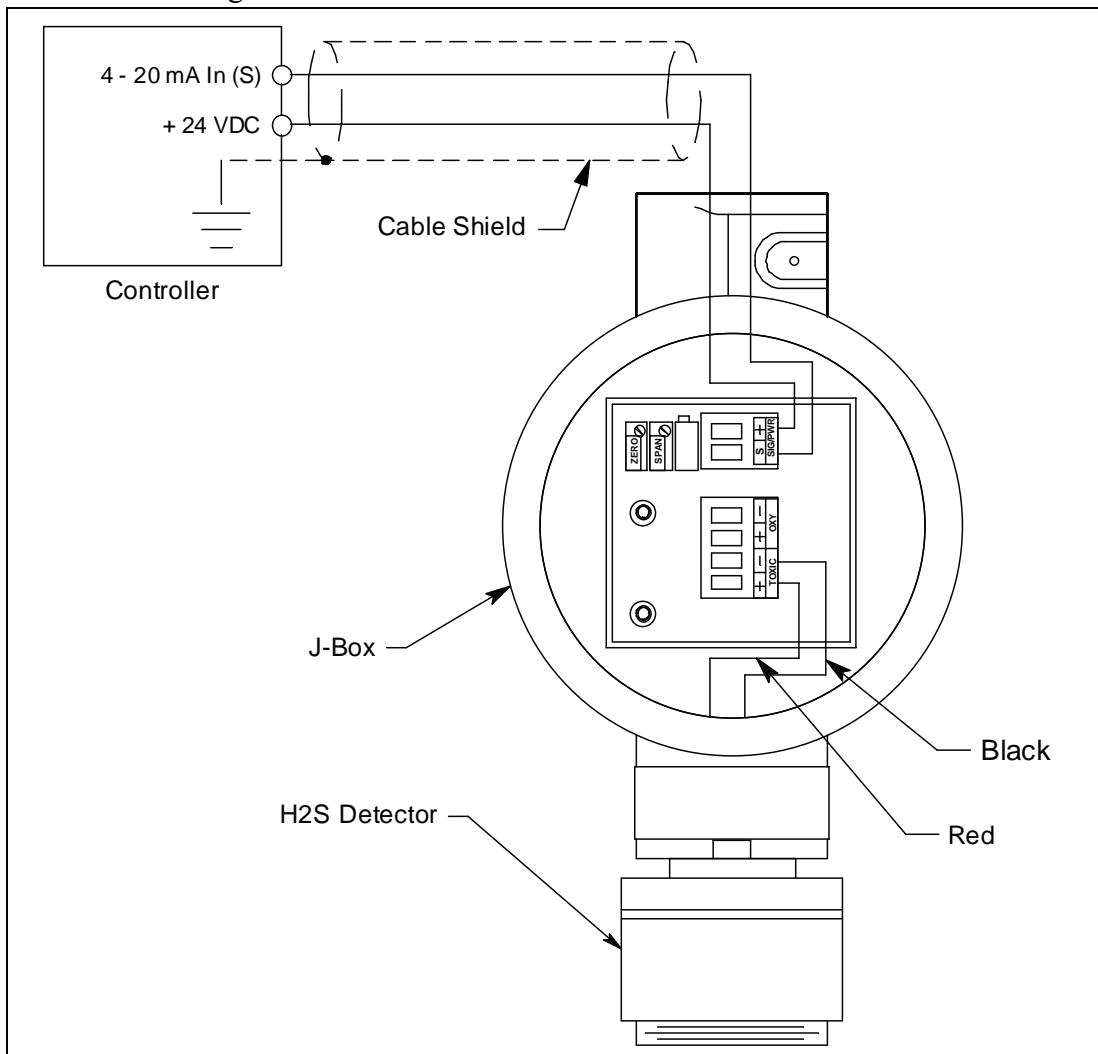

Figure 4: Wiring the H₂S Transmitter to a Controller
4. The detector leads are factory wired. Verify that the detector leads are wired to the amplifier's detector terminal strip as shown in Figure 4.
7. Pull out the controller terminal strip and connect the two wires to the terminal strip as follows (see Figure 4).
11. Connect the wires to the applicable detector/transmitter terminal strip at the controller as shown in Figure 4.
8. Connect the detector leads to the appropriate detector terminal strip terminals. Connect the red wire to the terminal labeled TOXIC + and the black wire to the terminal labeled TOXIC -. See Figure 4 for the detector wiring connections to the amplifier.